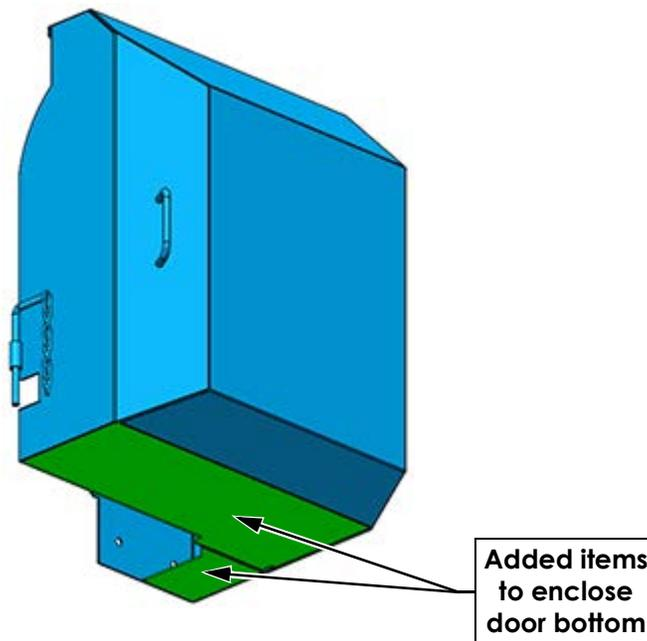
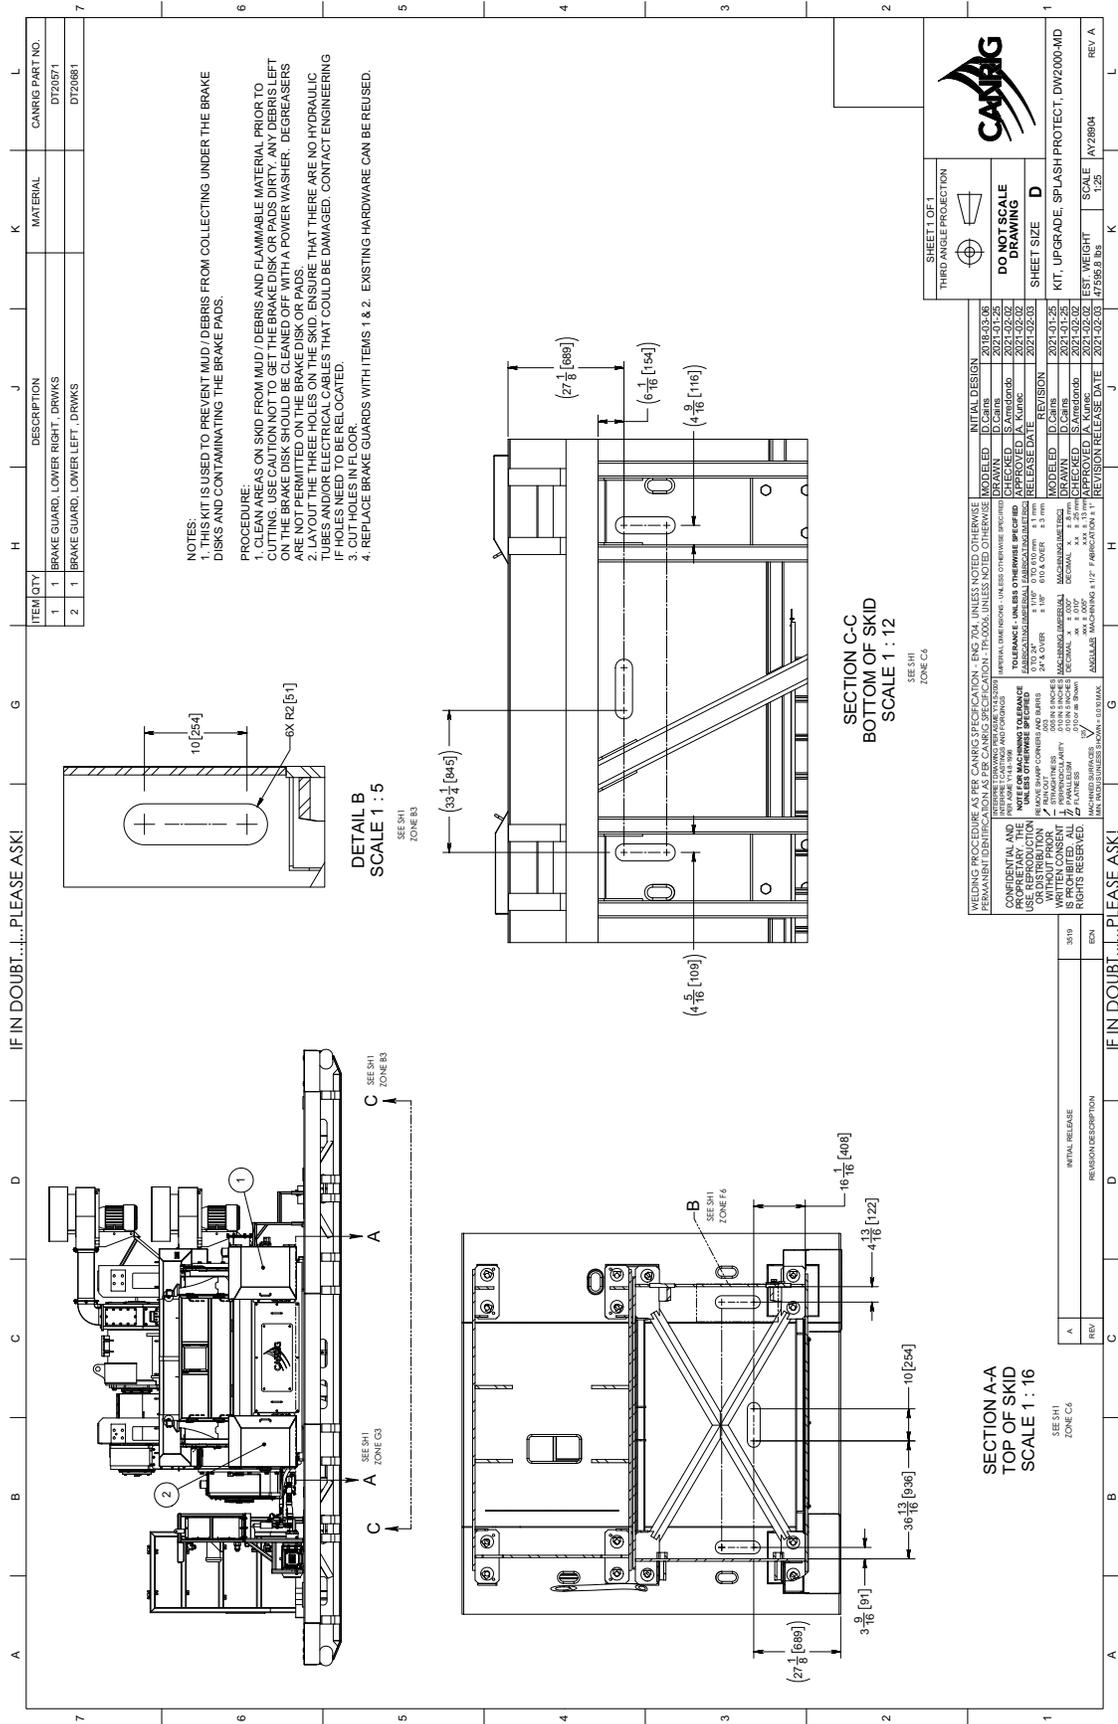

Figure 2: Updates to existing guard doors
Figure 3: Addition of drain holes to existing skid
- The solution involves adding drain holes to the skid and covering the bottom of the guards. A drawing, AY28904 (Figure 3 on page 4), was created to upgrade the units in the field.
Update the guard doors to include the splash protection and add drain holes to the skid deck. Refer to AY28904 (Figure 3 on page 4) for the new door part numbers and locations for the drain holes.
Refer to AY28904 (Figure 3 on page 4) for the procedure for field installation of drain holes on skid. Updated enclosed door to eliminate the ingress of contaminants is shown on Figure 2.